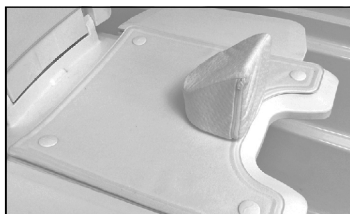

Figure 19
3. Return the round plate to the base plate by pressing on the center until it is clicked into position (Fig. 19)